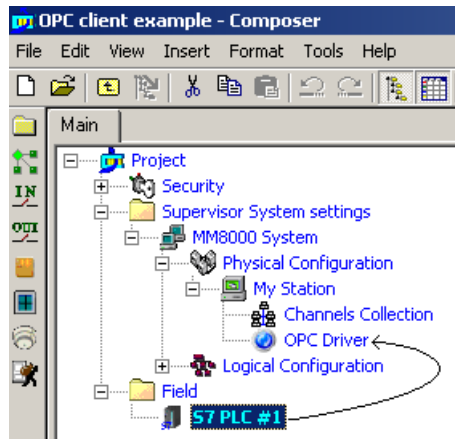

Fig 24 Linking the OPC subsystem to the corresponding driver
3. Drag the S7 subsystem node to the ‘OPC Driver’ node (see Fig 24).